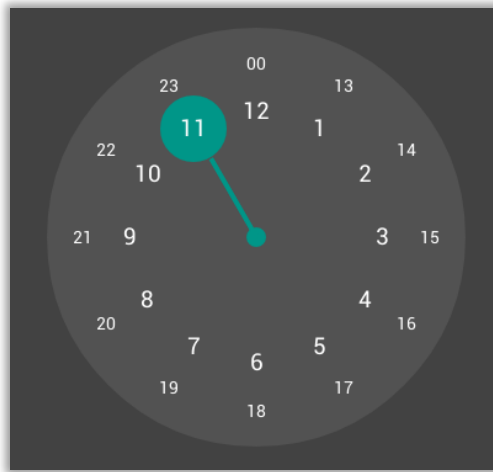

Fig. 63: Clock Window
- I The hour in the range of 00-24 to be adjusted is selected (Figure 63).